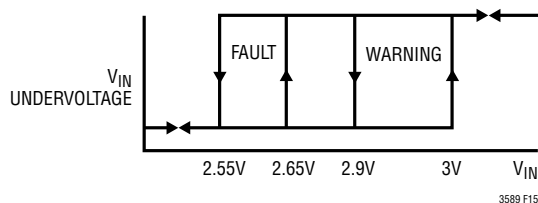

Figure 15. UV Detection Hard Reset and Warning Levels
The LTC3589 undervoltage (UV) detection circuit will output a fault condition, locking out regulator operation, until  $V_{IN}$  reaches 2.7V. Once  $V_{IN}$  is above 2.7V the LTC3589 will operate normally until  $V_{IN}$  drops to 2.55V (typical). When  $V_{IN}$  drops below 2.55V, the fault condition initiates a hard shutdown reset. Figure 15 shows undervoltage warning and fault detection levels.